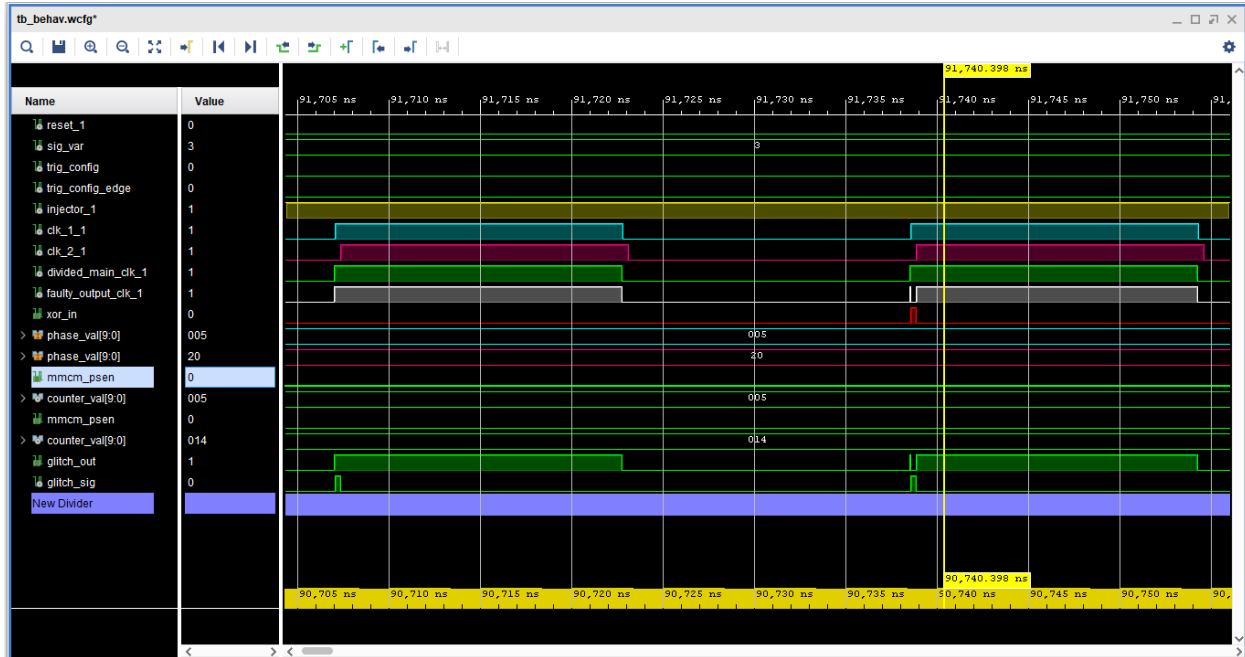

Figure 9: Simulation results
- In Figure 9, the value of `trig_con` is zero, which means that the glitch configuration does not change, And the produced glitch has a width of 15 ($\text{phase2} - \text{phase1}: 20 - 5 = 15$).